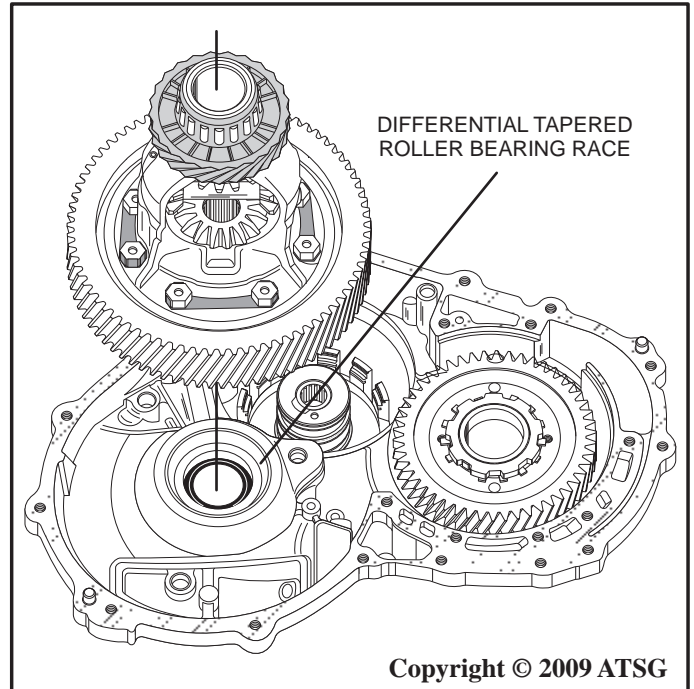

Figure 179
69. Flip the transaxle housing over then coat the differential tapered roller bearings with a small amount of ATF and place the differential carrier into the case as shown in Figure 179.
74. If preload is not within specification, remove transaxle tapered roller bearing race (refer to Figure 179) and select a differential spacer from the chart in Figure 182 to obtain specified preload.